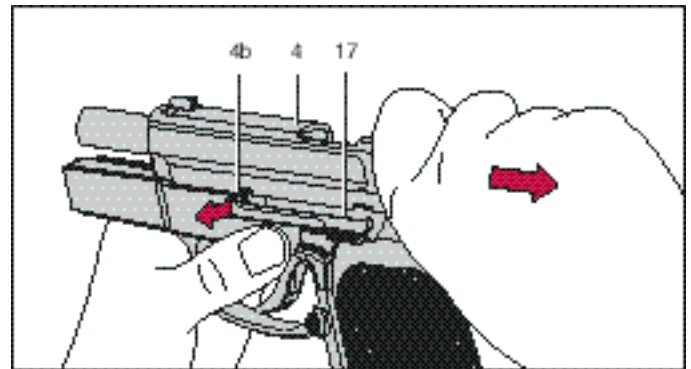

Fig. 9
4. Take the frame and slide in your right hand. Pull the slide 4 back slightly to release the slide catch lever 17. Then allow the slide 4 to move forwards by about 3 mm until the recess 4b on the slide 4 rests with its tip against the slide catch lever 17. Press the slide catch lever 17 in from the right and remove from the left (Fig. 9).